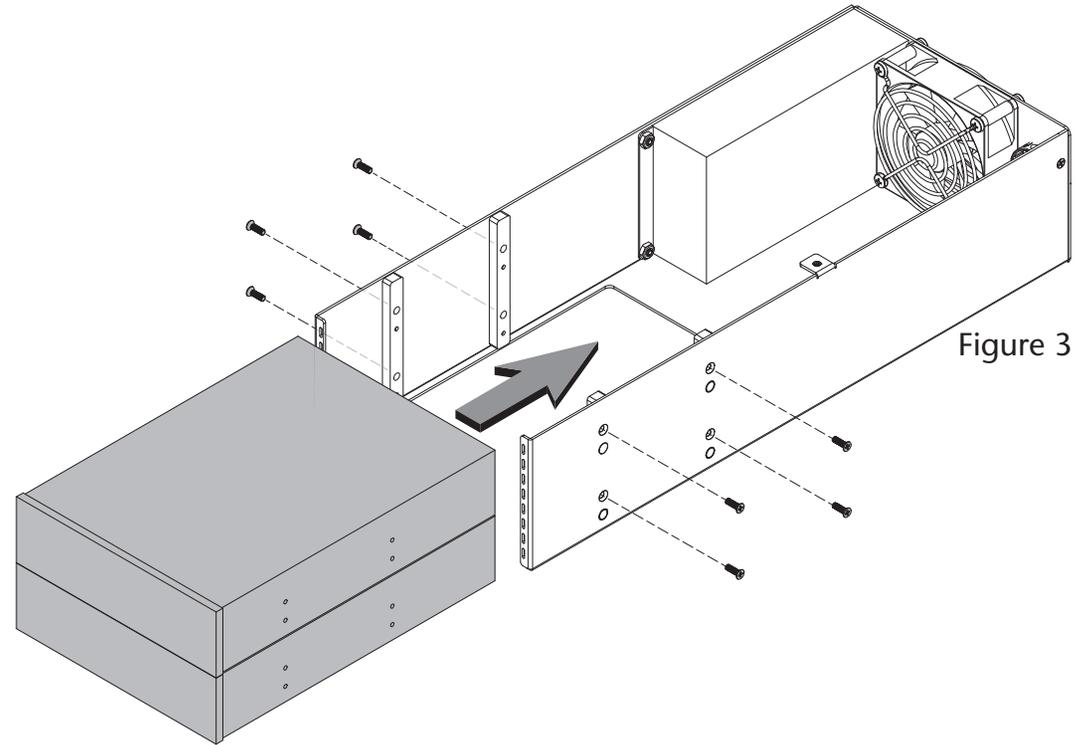

Figure 3
8. Insert the mobile rack devices into the kit's frame, and then using the screws you removed previously, secure the devices to the frame (**Figure 3**).